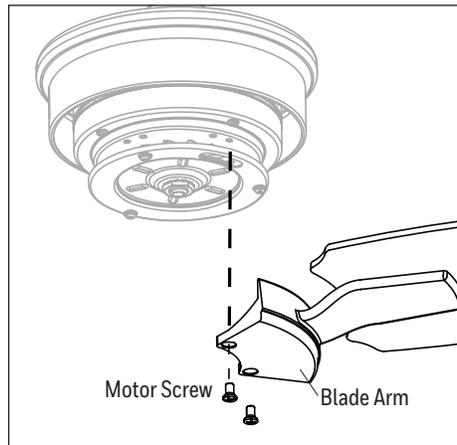

Figure 5.5
- Install the blade arms to the underside of the motor assembly using the ten previously removed motor screws (Figure 5.5).